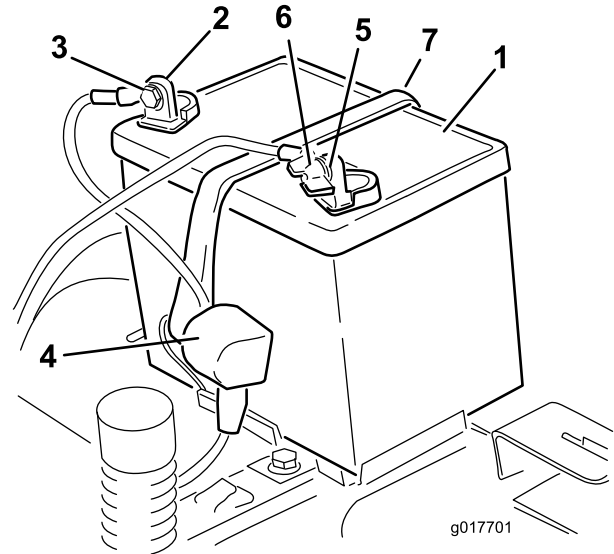

Figure 40
4. Disconnect the negative (black) ground cable from the battery post (Figure 40). Retain all fasteners.
- Slide the rubber cover up the positive (red) cable. Disconnect the positive (red) cable from the battery post (Figure 40). Retain all fasteners.
- Remove the battery hold-down (Figure 40) and lift the battery from the battery tray.
1. Position the battery in the tray (Figure 40).
5. Secure the battery with the hold-down (Figure 40).